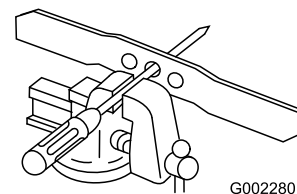

Figure 33
1. Check the balance of the blade by placing the center hole of the blade over a nail or screwdriver shank clamped horizontally in a vise (Figure 33).